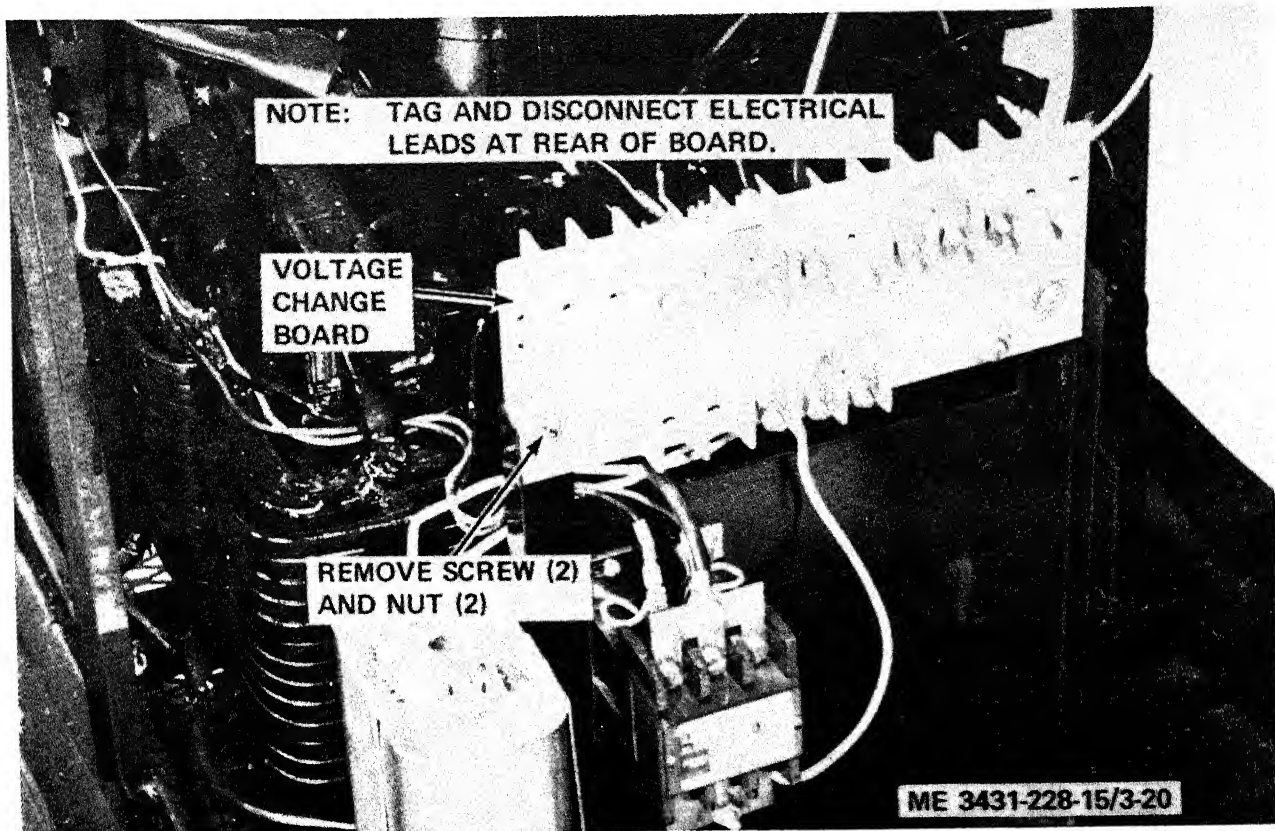

Figure 3-20. Voltage change board, removal and installation.
- (1) Disconnect ac power from the welding machine.
- (2) Remove top and housing (para 3-20).
- (3) Refer to figure 3-20 and remove the voltage
- (1) Refer to figure 3-20 and install the voltage change board.
- (2) Install the top and housing (para 3-20).